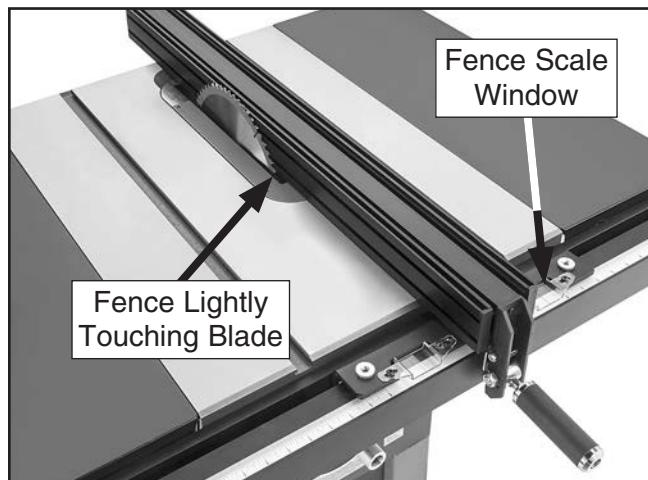

Figure 28. Fence scale calibration.
21. Lift fence handle and slide fence so it lightly touches right side of blade (see **Figure 28**). Do not lock fence at this time.
22. Nudge fence rail so zero mark of scale (on right) lines up with cross-hair in fence scale window (see **Figure 28**).